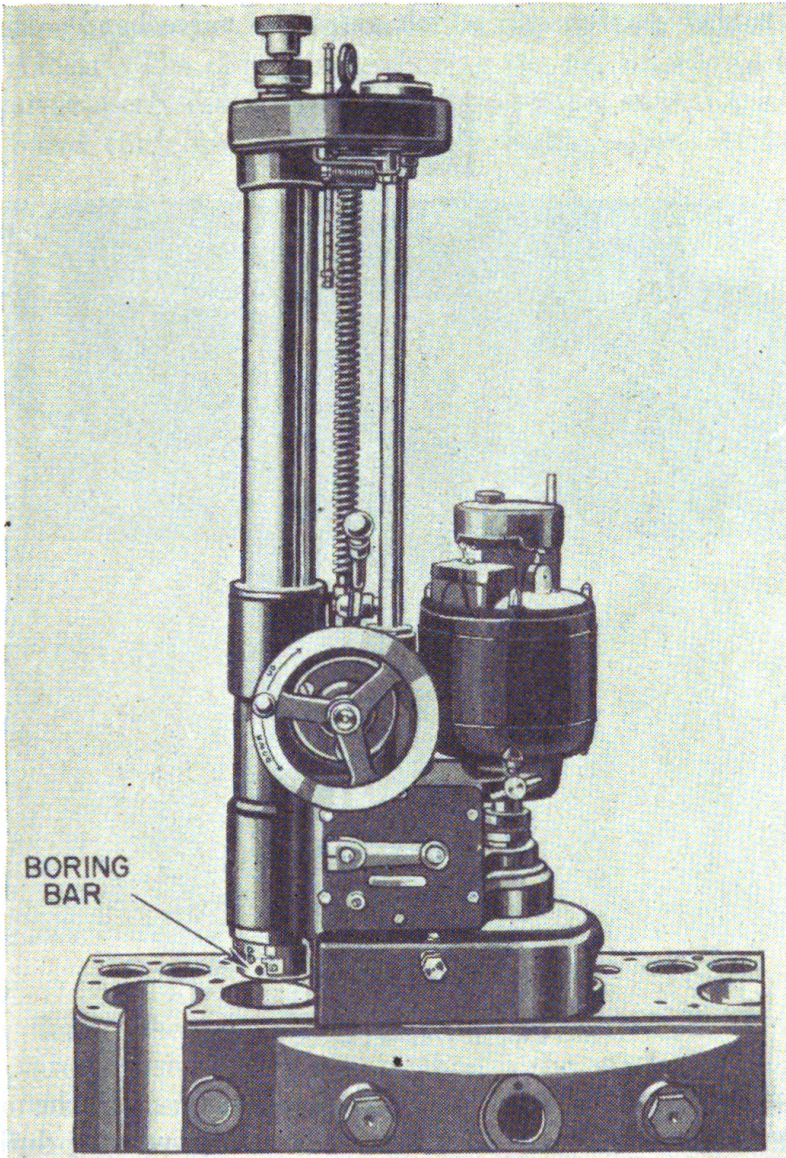

FIGURE 117.—Cylinder boring machine.
38. Cylinder boring and honing tools.—*a. General.*—It is often necessary in automotive maintenance work to rebore the cylinders of an engine which have become worn out of round. An electrically driven cylinder boring machine, such as the one shown in figure 117, is usually used for this operation. This tool bores the inside diameter of the cylinder round and to within 0.001 inch of